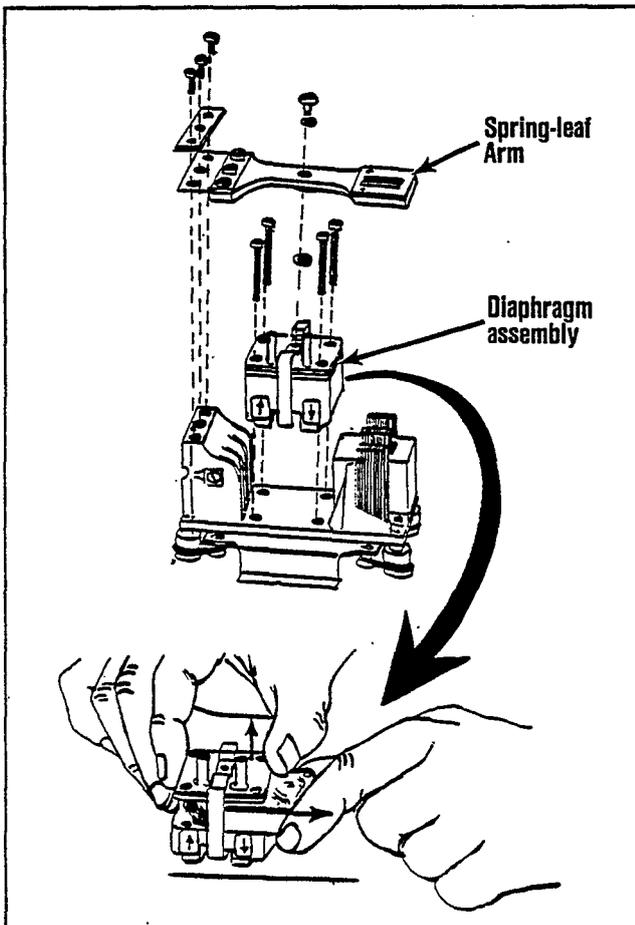

Figure 4-19. Pump, Exploded View
4. Remove the spring-leaf arm from the pump by removing both the center mounting screw and the three outer mounting screws; see Figure 4-19.
6. Lift the upper metal and plastic portions of the diaphragm assembly and then slide out the plastic middle block of the diaphragm assembly; see Figure 4-19.